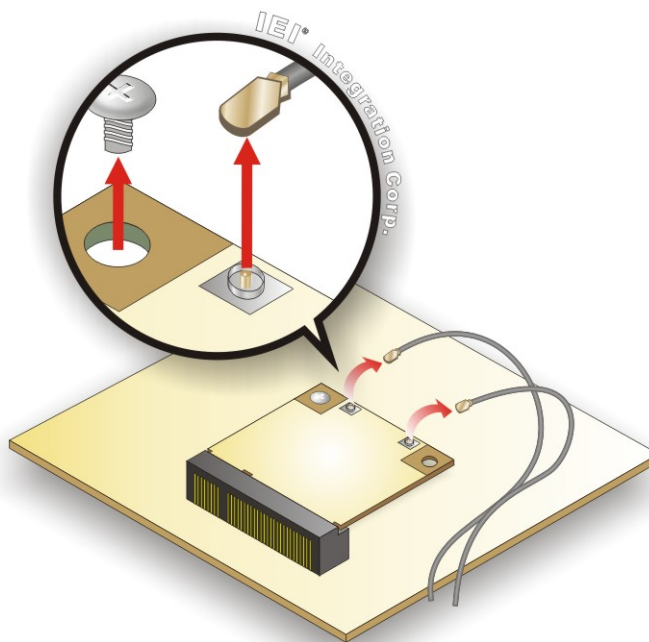

Figure 5-4: Releasing the WLAN Card
Step 5: Disconnect the antenna cables on the WLAN module and remove the retention screw to release the WLAN card (Figure 5-4).